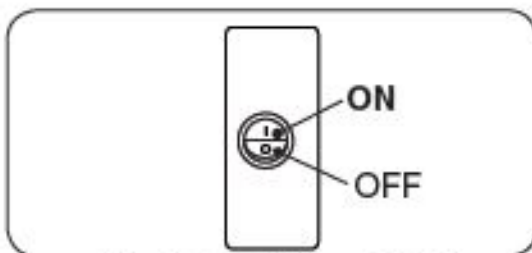

Fig. 19-2 Switch box, ON/OFF
2. Locate the ON/OFF switch at the front of the switch box. Press the switch to the ON (I) position. See Fig. 19-2. The igniter will begin to spark. After the pilot lights and is established, the valve will automatically open and the burner will light.